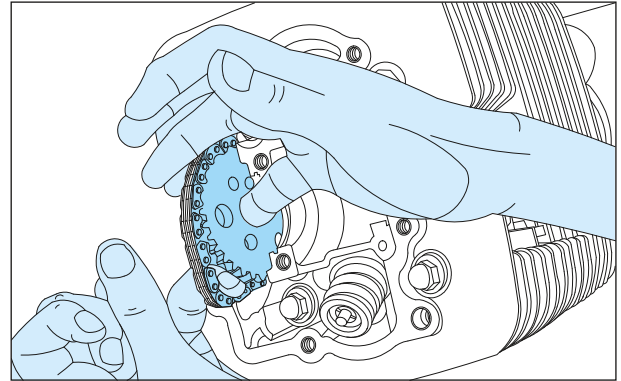

Fig. 3.55
- Pull out the sprocket camshaft along with the cam drive from the camshaft complete. Dislocate the cam chain from the sprocket camshaft and take out the sprocket camshaft. (Fig. 3.55)